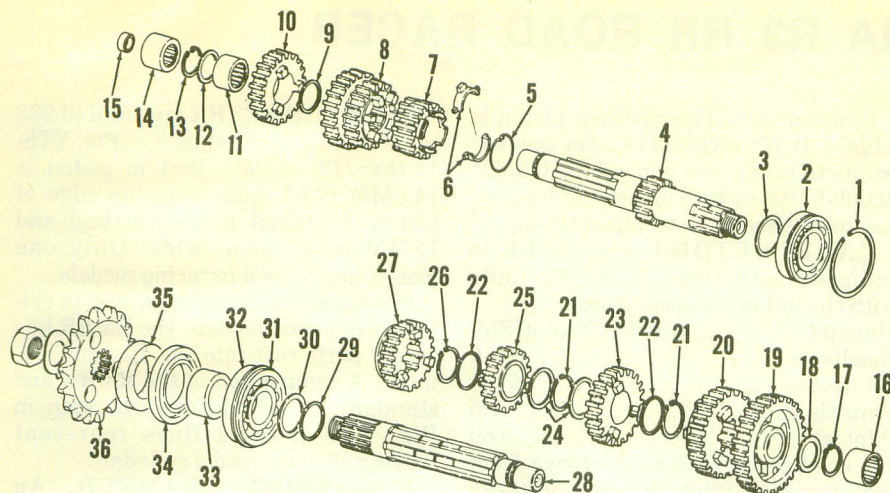

Fig. Y8-22—Exploded view of the transmission assembly. Refer to Fig. Y8-21 for view of parts installed in the top half of crankcase.
Fig. Y8-19—Exploded view of the gear shift assembly. Shift fork (19) moves gear (27—Fig. Y8-22), fork (23) moves gear (8—Fig. Y8-22) and fork (24) moves gear (20—Fig. Y8-22).